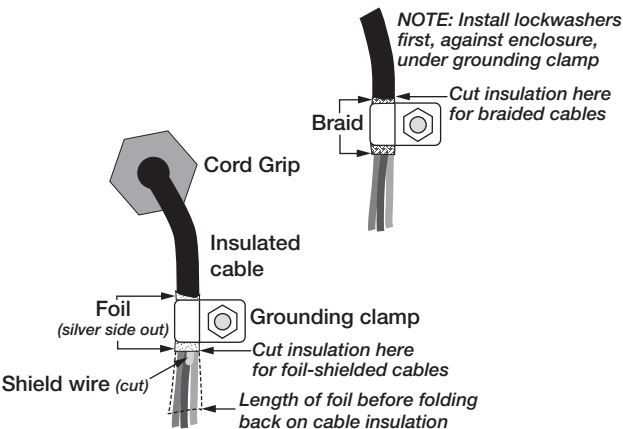

Figure 2-2. Grounding Clamp Attachment for Foil-Shielded and Braided Cabling
- For cables with foil shielding, strip insulation and foil from the cable 1/2 inch (15 mm) past the grounding clamp, see Figure 2-2. Fold the foil shield back on the cable where the cable passes through the clamp. Ensure silver (conductive) side of foil is turned outward for contact with the grounding clamp.
- For cables with braided shielding, strip cable insulation and braided shield from a point just past the grounding clamp. Strip another 1/2 inch (15 mm) of insulation only to expose the braid where the cable passes through the clamp, see Figure 2-2.
- Route stripped cables through cord grips and clamps. Ensure shields contact grounding clamps as shown in Figure 2-2. Tighten grounding clamp nuts.